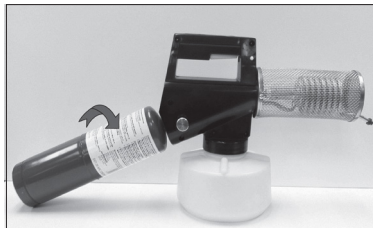

Figure 5
2.) Propane cylinder attached improperly.	2.) Screw in the propane cylinder securely (See Figure 5).